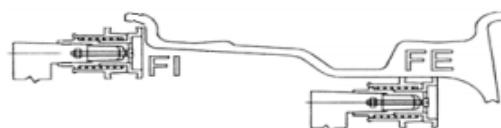
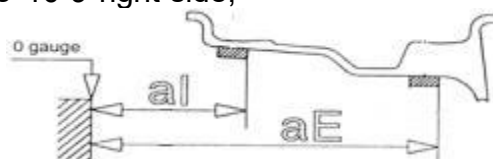

Figure 7-8
Figure 10-9
- 10.5.3 Slowly spin wheel, when inside counterweight position indicator light(figure 5-1(3)) all on, if is follow figure 7-8 input date of rim, nextstep follow 10.2.3 clip counterweight, if Notec figure 10-9 of left sideshow, stick counterweight on 12 o'clock position on inside of rim.
- 10.5.4 Slowly spin wheel, when inside counterweight position indicator light(fight 5-1(4)) all on, stick correspond counterweight on 12 o'clock position on outside of rim, ect figure 10-9 right side;
- 10.5.7 If is follow figure 7-8 input date of rim, follow 10.2.3 clip counterweight on inside edge of rim. Press STOP key and ALU key, all middle of LED display - -, follow 10.3.9 stick counterweight on outside of rim.
10.6.4 Slowly spin wheel again, when outside counterweight position indicator light(figure 5-1(4)) all on, find second position, stick counterweight on 12 o'clock position outside of rim, ect figure 10-9 right side;